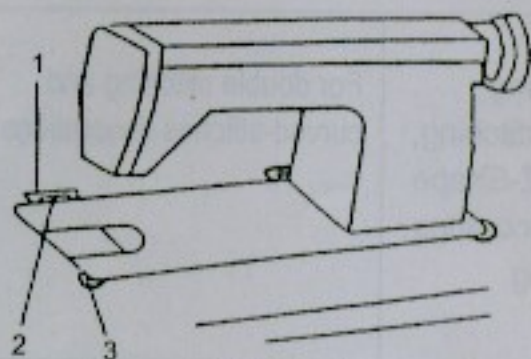

Figure 2
##### (2) Installation of machine Head (see Figure 2)